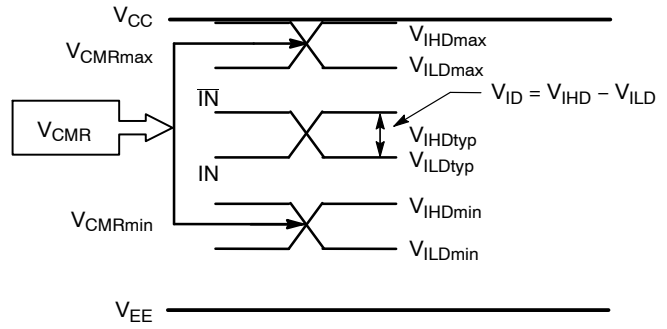

**Figure 3. AC Reference Measurement**
7. Measured from the input pair crosspoint to each single output pair crosspoint across temp and voltage ranges per Figure 3.